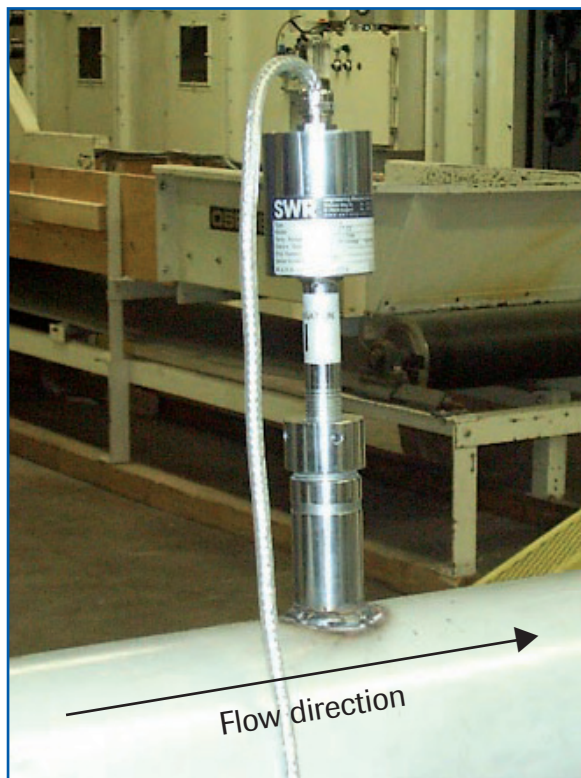

Fig. 8b: Sensor alignment
- and align it longitudinally to the pipe axis as shown on the polarisation sticker (Fig. 8b). Then seal the measurement point with the union nut.